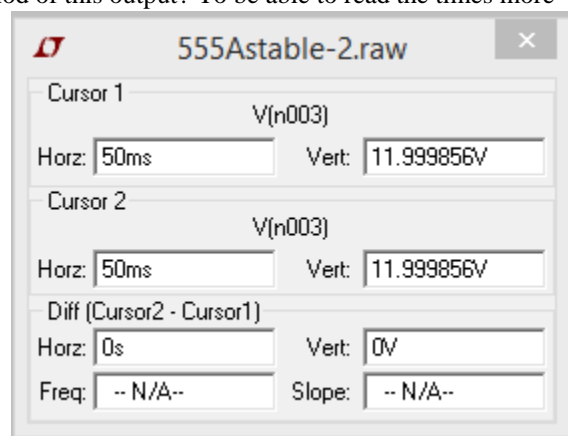

Figure A-5
- Verify that the timer output changes according to the rules listed for the 555-timer in astable mode. Use the plot to find the time period that the output is ON and the time period that the output is OFF. *Note: Do not use the first cycle of pulses produced by the timer circuit. It takes one cycle to settle in to its steady-state condition.* One of these times should be equal to $0.693(R1+R2)C1$ while the other should be equal to $0.693(R2)C1$. Which is which? What is the total period of this output? To be able to read the times more easily, use the cursors. To open a cursor, use your mouse to click on the name of the output voltage at the top of the screen. To add a second cursor (to read both ends of a time period simultaneously), click on the voltage name again. The locations of the cursors will be displayed in the cursor window. (See Figure A-5) When your mouse nears the location of a cursor on the screen, its number will appear. Then you can move it wherever you wish.